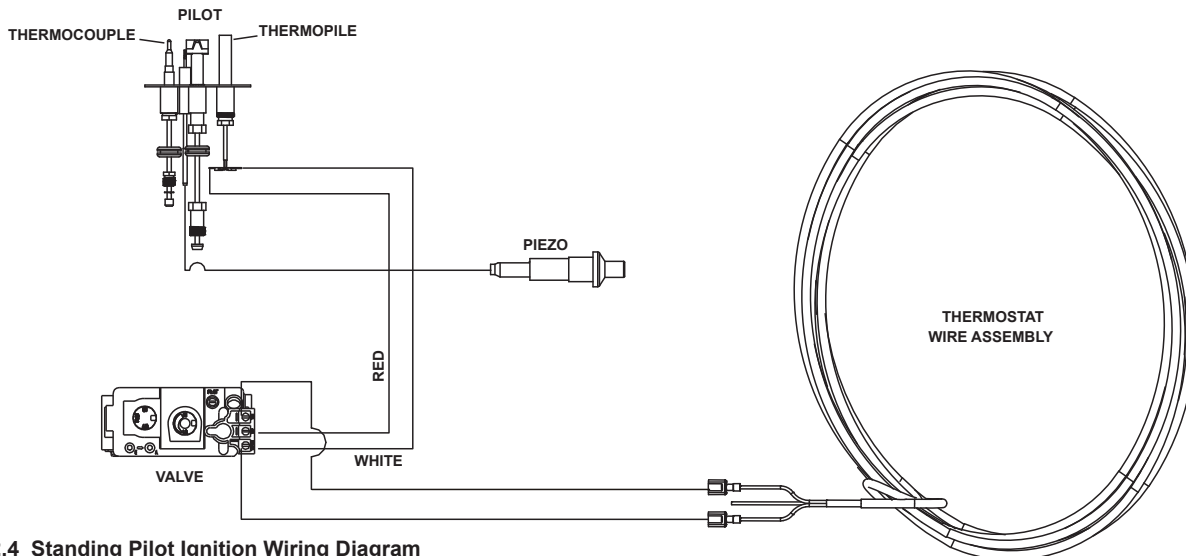

Figure 12.4 Standing Pilot Ignition Wiring Diagram
- The standing pilot ignition system wiring does not require a 110 VAC supply to operate. See Figure 12.4.